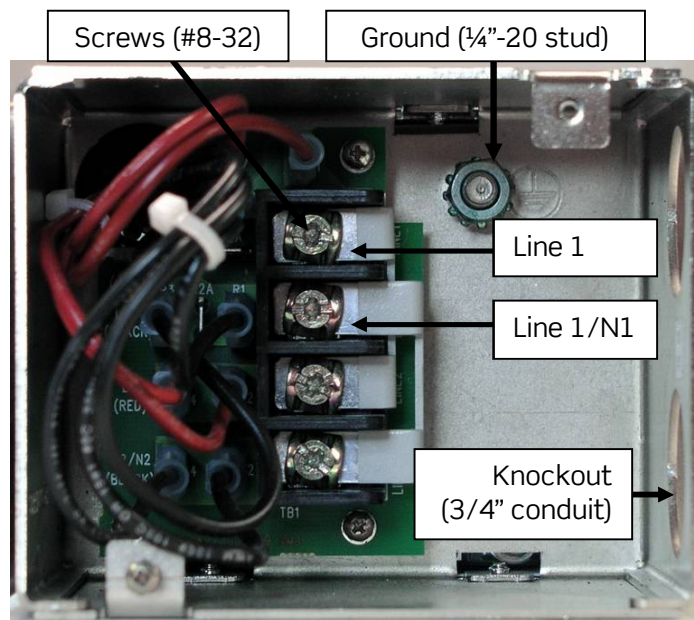

Figure 8 - AC Terminal Block Connections (Single Feed)
2. Connect the line/hot to Line 1, labeled on the AC terminal block (Figure 8).
2. Connect the first line/hot to Line 1, labeled on the AC terminal block (Figure 8).